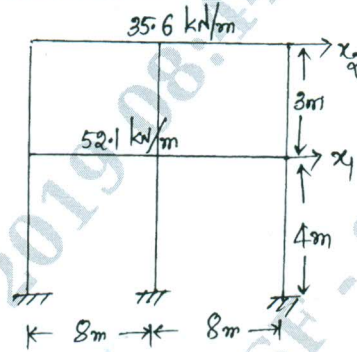

Fig Q6
- 6 Compute the natural frequencies and mode shapes for the shear frame shown in the Fig Q6. Given $EI = 23.83 \times 10^6 \text{ Nm}^2$ for all columns.